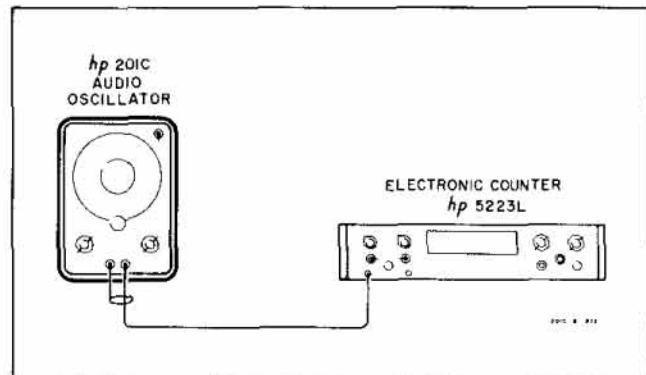

Figure 5-1. Calibration Accuracy Check
- a. Connect test setup as shown in Figure 5-1.